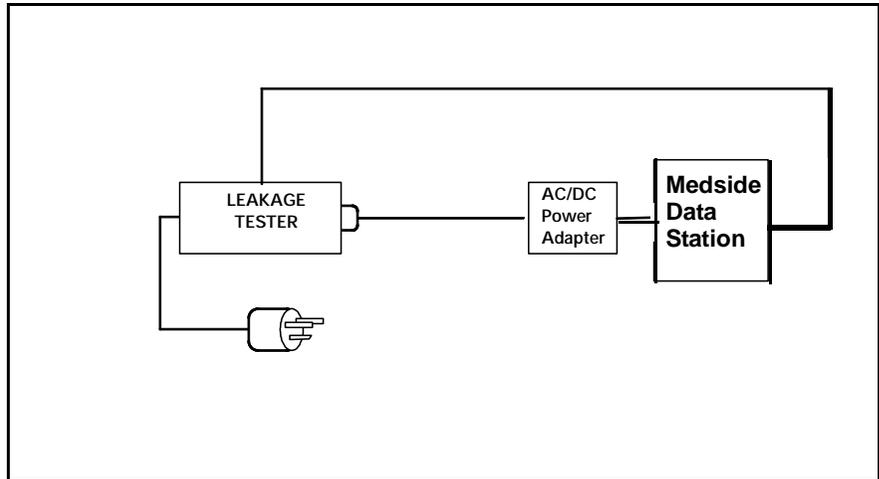

Figure 7-1 MDS Earth leakage current test setup
1. Perform leakage test with MDS power supply plugged into leakage tester. See Figure 7-1.